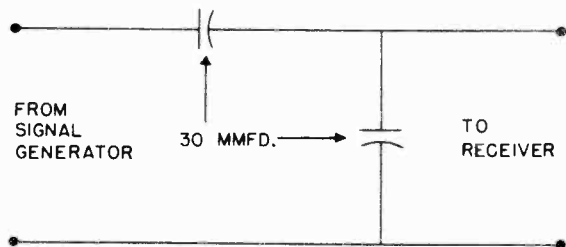

Fig. 7. Dummy Antenna
3. Figure 7 is the schematic circuit of a recommended dummy antenna, closely resembling actual antenna capacity, to be used in series with the signal generator leads when aligning the r-f section of the receiver.